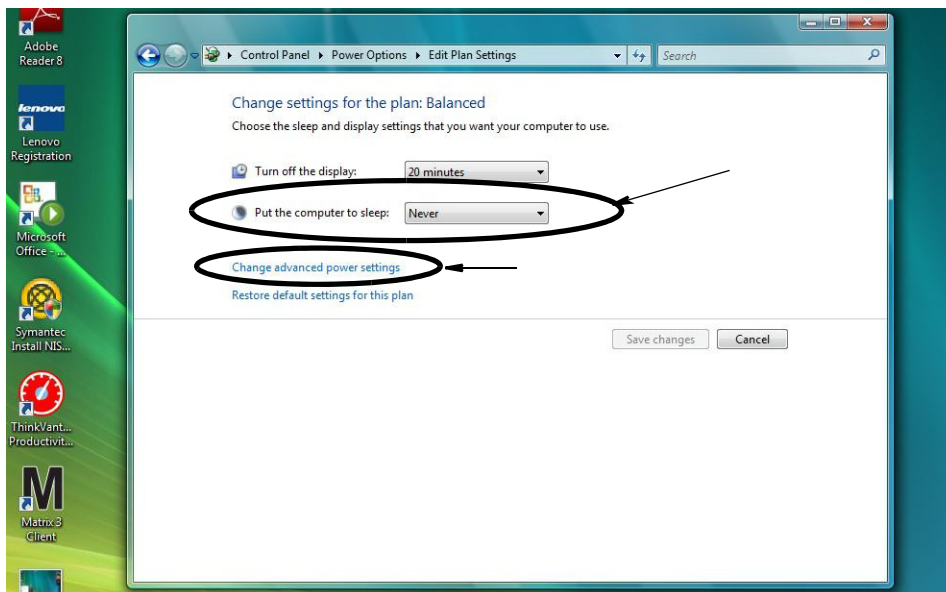

FIG. 52
4. Change the “Put the Computer to Sleep” field to NEVER. Then select the “Change Advanced Power Settings” (FIG. 52).